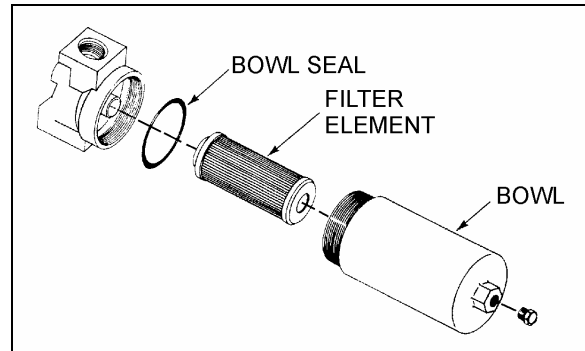

FIGURE 40: WATER FILTER
compartment (refer to Figure 21 and Figure 40 (behind the right air duct)).
4. Remove filter element from housing (Figure 40).